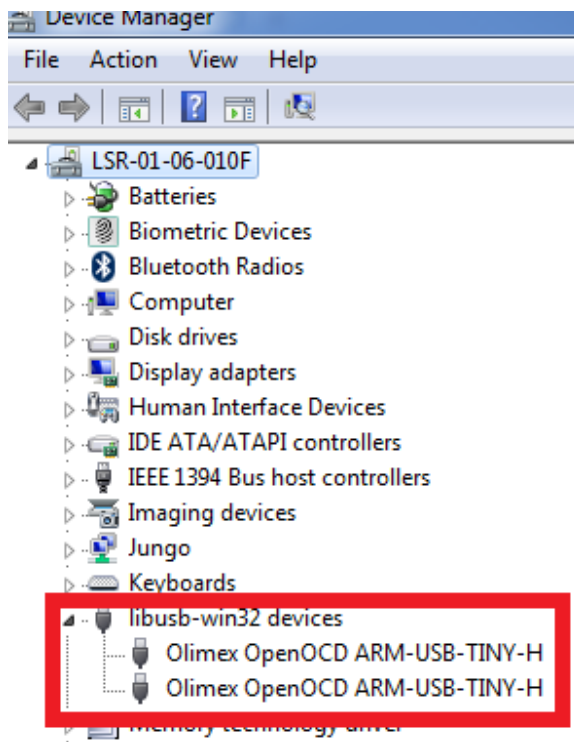

Figure 9 - Olimex Drivers Installed
2. Figure 9 shows drivers that have been installed.